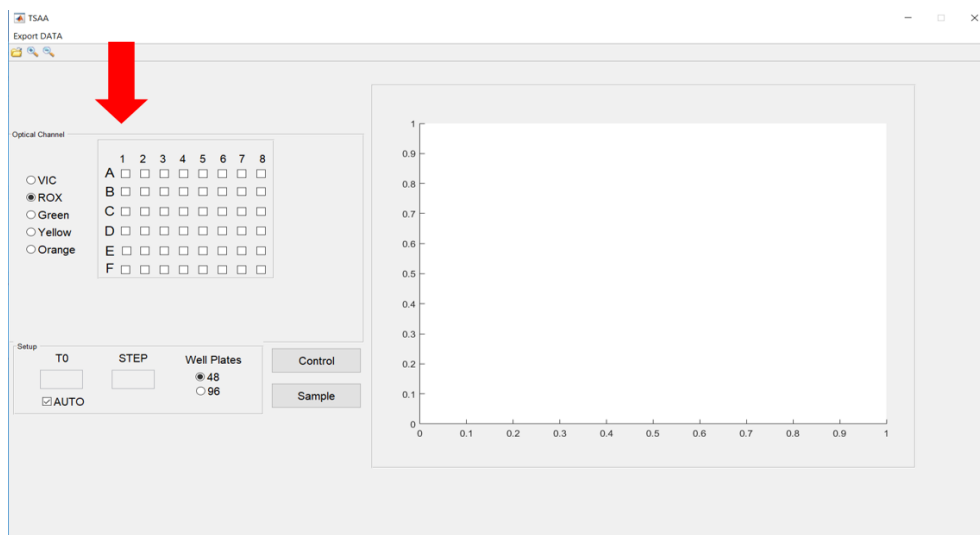

Figure 8: TSAA Panel: 48 well plate panel control
- When the program finish to load the data, a control panel will appear(Figure 8, 9), the number of wells that appear depends of the plate that you select.